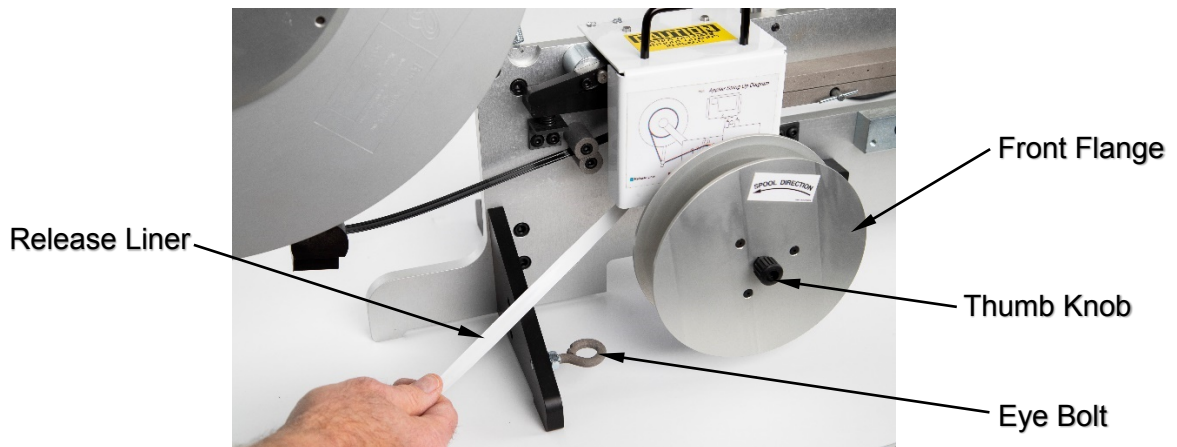

Figure 3.6
- L. Replace the Nip Guard and turn the power on. Push and hold the **JOG** button on the touchscreen so that more tie material feeds through the machine. Be sure to pull the release liner to the left as you do this. You will need about 18" of release liner. (Figure 3.6)